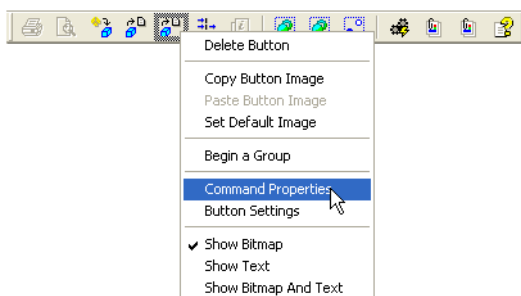

Figure 1-31. Display Command Properties
1. Right-click an **import/export toolbar button** and click **Command Properties** on the pop-up menu (Figure 1-31).